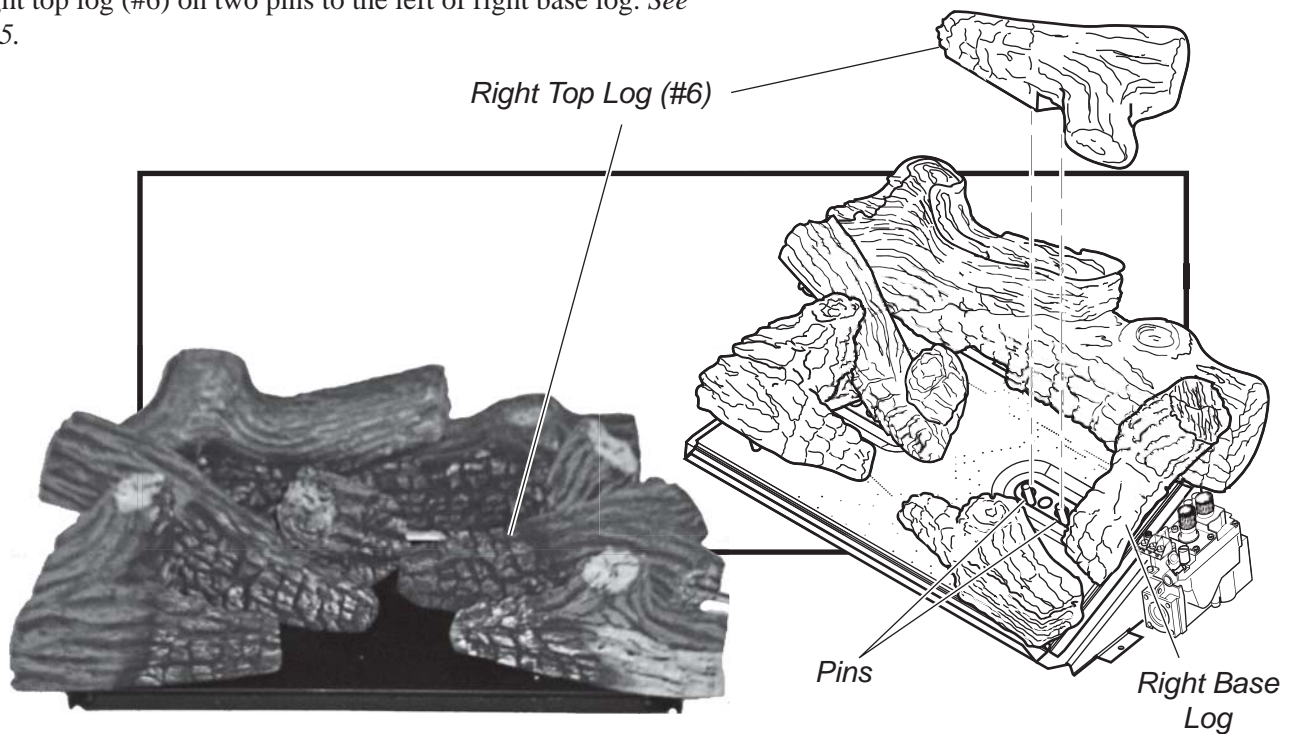

Figure 25 - Installing Right Top Log (#6)
7. Place right top log (#6) on two pins to the left of right base log. See Figure 25.